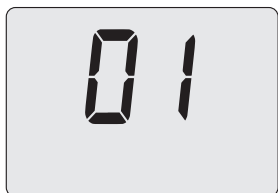

Fig. 8.48
- By using buttons 13 or 14 (Fig. 8.31) it is possible to modify the value of parameter A21 (Fig. 8.48).